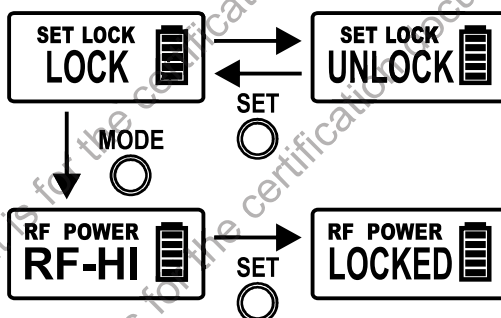

Fig. 32
(D) SET LOCK Setting. Fig. 32:
- (1) Select LOCK or UNLOCK.
- (2) LOCKED: Power button is locked and cannot be operated. The mute function is workable.
- (3) Press MODE button and press SET button to select UNLOCK to unlock the setting. After UNLOCK stops blinking, the unlock setting is confirmed and the power button lock will be canceled.